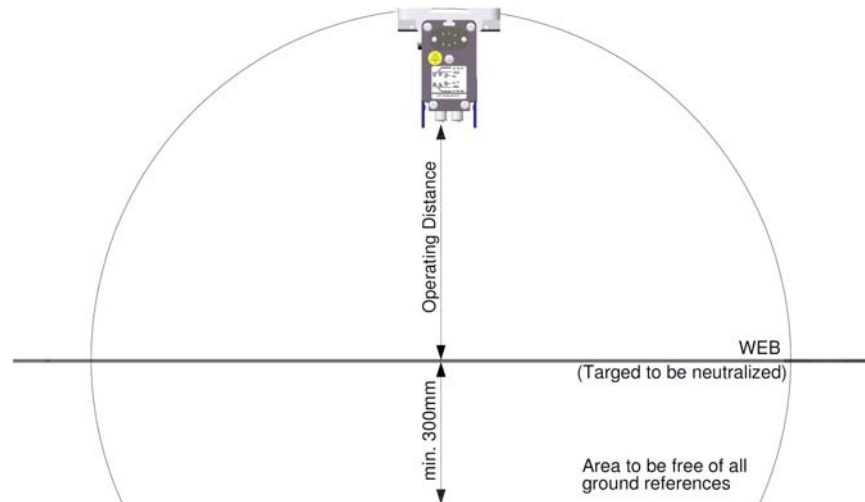

Figure 1
- For optimum results, the anti-static bar must be fitted as shown in Figure 1.
- Fit the anti-static bar with the emitters towards the material to be discharged. Use the supplied mounting materials, see fig. 1 and 3.